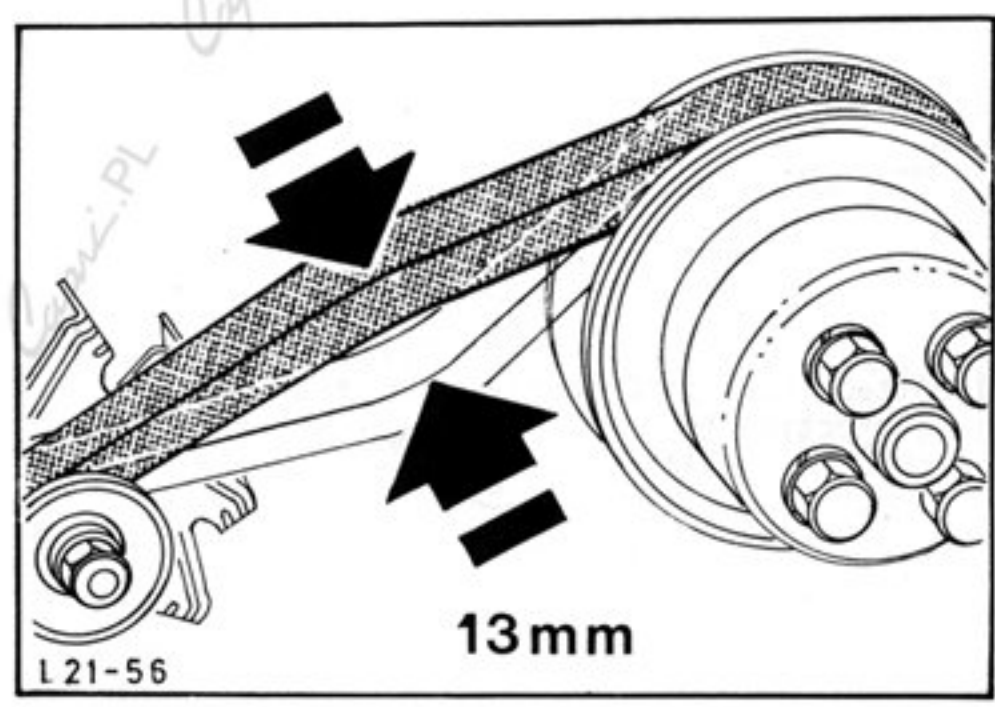

Fig.95. Adjust alternator V-belt tension.
27. Fit V-belt and adjust tension, Fig.95.